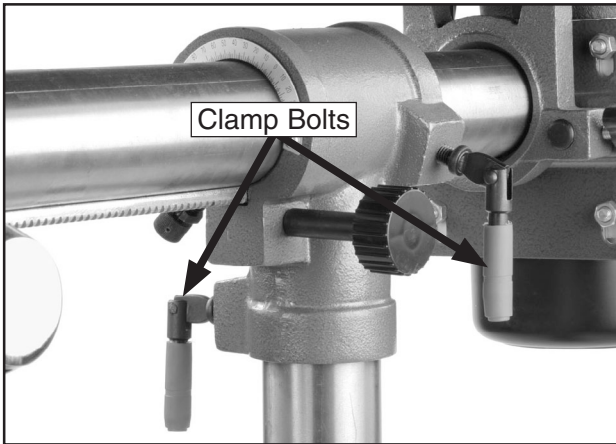

Figure 12. Clamp bolts.
3. Screw two clamp bolts into each side of the horizontal column bracket (**Figure 12**).